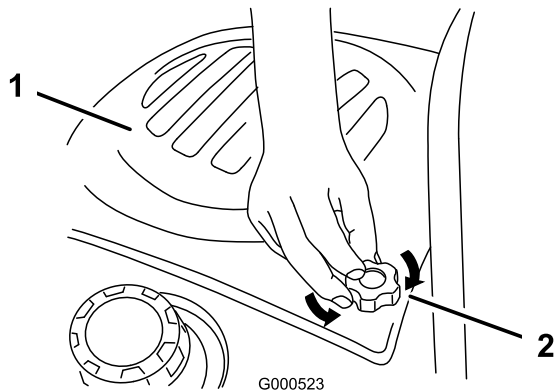

Figure 17
1. To remove the hood, loosen the knobs and then pull the hood back and up (Figure 17).
- Tighten the knobs in the engine hood (Figure 17).